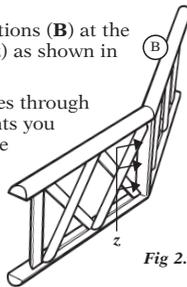

Fig 2.
2. First, join the two Roof Sections (B) at the centre using three screws (z) as shown in Fig.2.